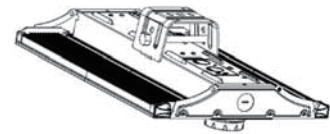

FIG.2
3. Install supplied nuts. See Fig 2